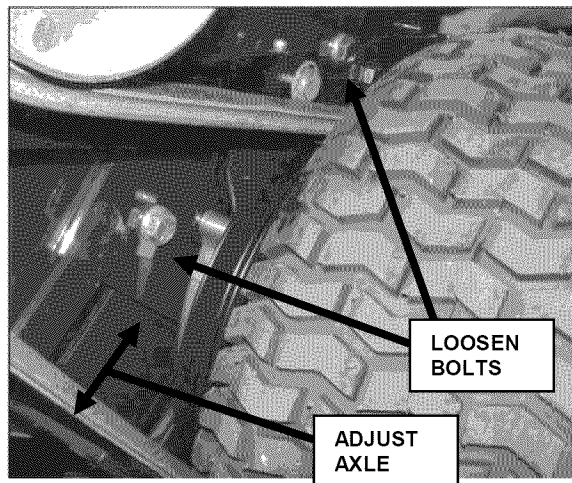

FIGURE 6.9
2. **REAR AXLE ADJUSTMENT:** Position a floor jack beneath rear of mower and raise mower. Loosen axle bolts and adjust axle assembly up or down to correspond with front caster adjustment. See Figure 6.9. **NOTE:** When adjusting axle make sure that rear of cutting deck is 1/4" higher than front.